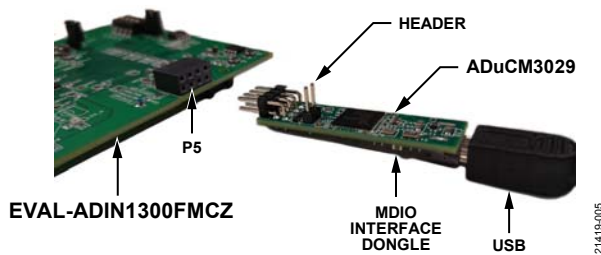

Figure 4. MDIO Interface Dongle Connection to the USB Cable and EVAL-ADIN1300FMCZ
The MDIO interface dongle is a separate board included in the EVAL-ADIN1300FMCZ evaluation kit. The MDIO interface dongle has an on-board, ADuCM3029 microcontroller and an FDTI Chip FT232RQ, universal asynchronous receive transmitter (UART) to USB interface. The schematic for this hardware is shown in Figure 41. When using the MDIO interface dongle, connect the USB cable to the MDIO interface dongle first, then connect the MDIO interface dongle to the EVAL-ADIN1300FMCZ with the ADuCM3029 facing up (see Figure 4).
4. Ensure that the ADuCM3029 microcontroller faces up (see Figure 4) and connect the MDIO interface dongle to the EVAL-ADIN1300FMCZ. The MDIO interface dongle is not keyed.